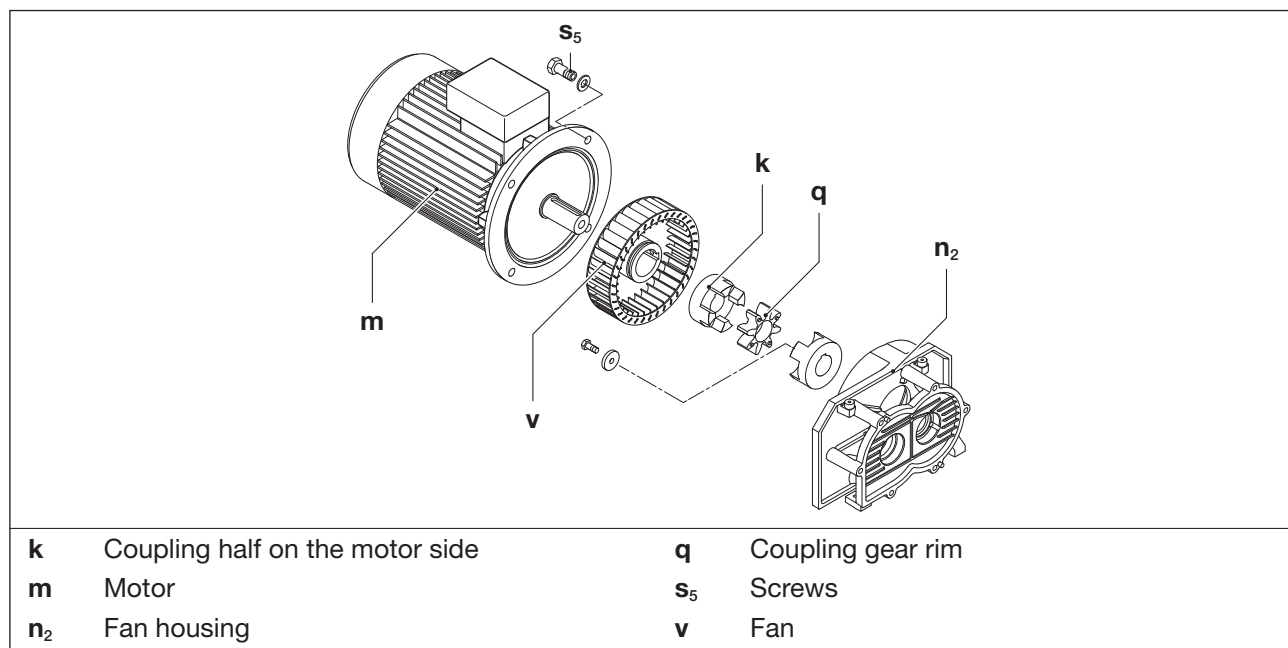

Fig. 7 Coupling
The gear rim (Fig. 7/q) is subject to wear and must be checked regularly (at least 1 x per year). The fan (Fig. 7/v) should also be checked for damage from time to time.
- Suspend the motor (Fig. 7/m) from the eyebolts using lifting gear. If there are no eyebolts, suspend the motor using round slings.
- Release the screws (Fig. 7/s₅) on the motor flange and axially pull the motor with the half of the coupling on the motor side (Fig. 7/k) off the fan housing (Fig. 7/n₂).
- Check the gear rim (Fig. 7/q). If the gear rim is damaged or worn, replace it.
- Check the fan (Fig. 7/v) and replace it, if necessary.
- Axially push on the gear rim and motor with coupling half on the motor side again and fix to the motor flange using the screws (Fig. 7/s₅). Tightening torque: 84 Nm